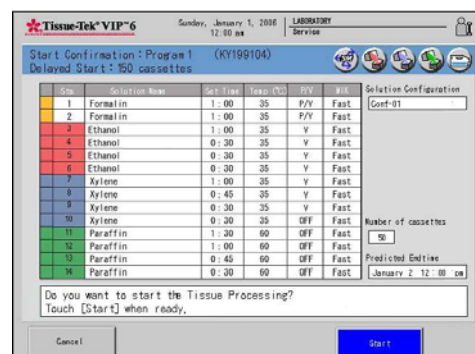

Figure 4-G
- The Start Tissue Processing Confirmation screen displays (Figure 4-G).